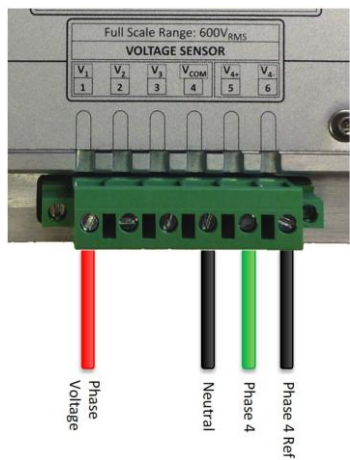

Figure 28: VECTO 3 single-phase connection
- Connect the phase Voltage to Voltage Inputs 1 as shown in Figure 28.